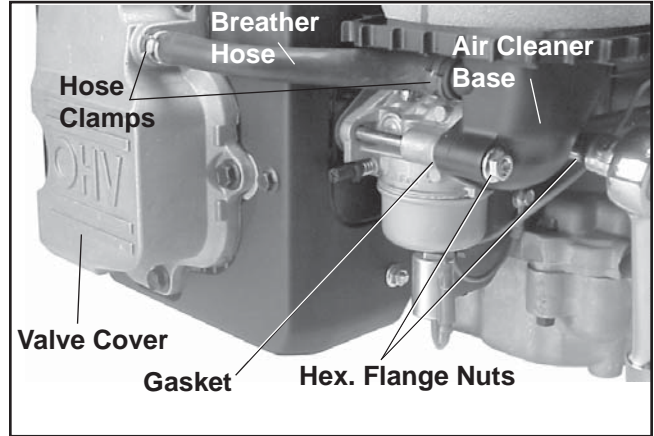

Figure 9-7. Removing Air Cleaner Base.
3. Loosen the hose clamps and disconnect the breather hose from the air cleaner base and valve cover. See Figure 9-7.